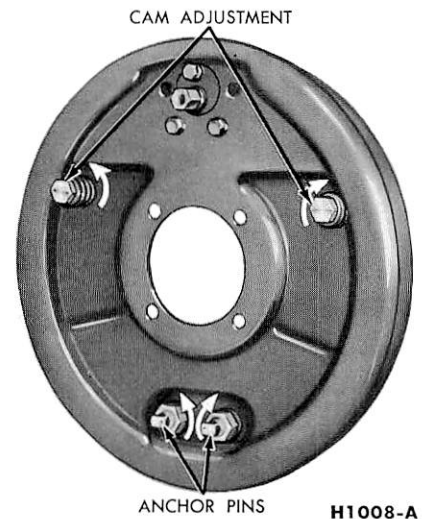

FIG. 4—Double Anchor Brake Adjustment
2. With the drums at normal room temperature, check to see that the wheels turn freely without drag. If necessary, turn the adjusting cams in the opposite direction to that shown in Fig. 4 to free the brakes.
3. Turn the adjusting cam of the forward (primary) shoe in the direction shown in Fig. 4 until the shoe drags against the drum.
4. Loosen the secondary shoe anchor pin nut (Fig. 4). Turn the secondary shoe anchor pin until the brake shoe-to-drum clearance at a point 1½ inches from the heel end of the shoe is 0.007 inch. Remove the feeler gauge.